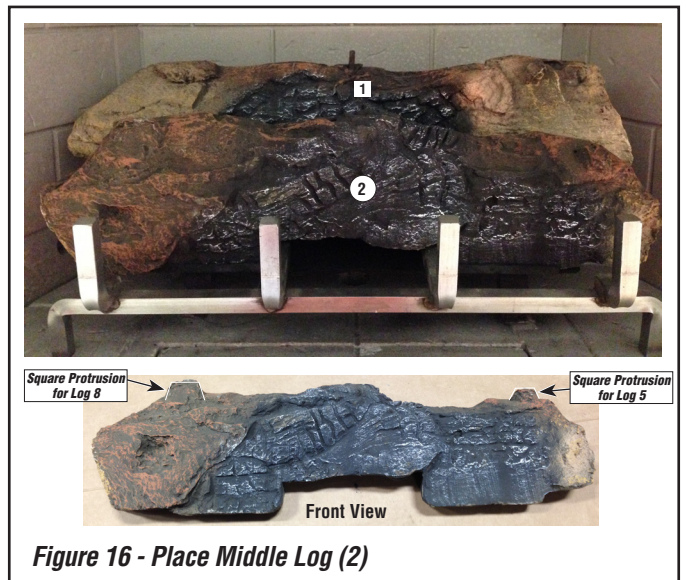

Figure 16 - Place Middle Log (2)
2. Place middle log (2) directly in front of tube burner (Figure 16).